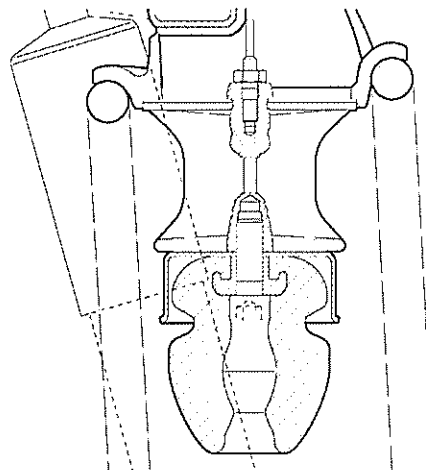

Fig 1 Front rubber hollow spring
6.1 Remove spring cup of rubber hollow spring (see Para 4) (see Fig 1).